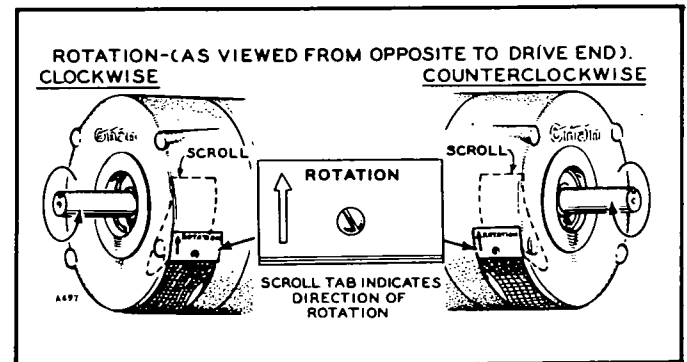

FIGURE 2. REVERSING THE SCROLL
3. Reverse the scroll for clockwise operation. See Figure 2, Reversing the Scroll.